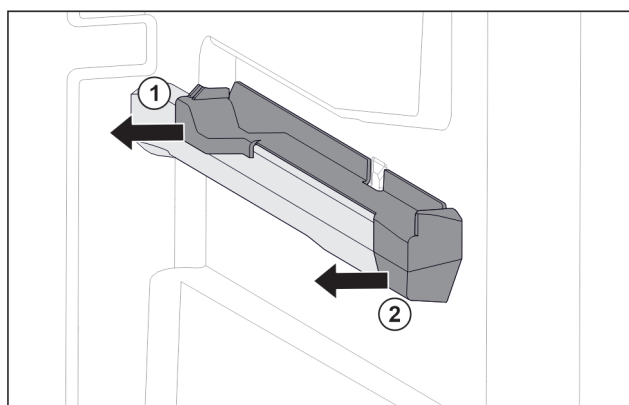

Fig. 140 Attachment on the right moulded rib
- Pull off attachment at the back sideways. Fig. 140 (1)
- Pull off attachment at the front sideways. Fig. 140 (2)